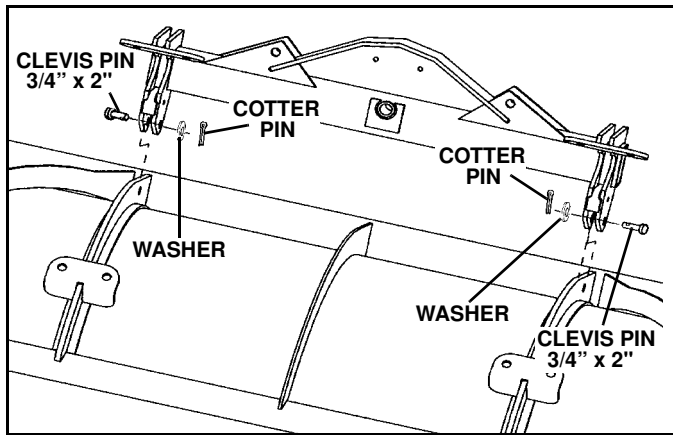

Figure 1-6
4. Place swing frame on blade and insert 3/4" x 2" clevis pin from blade parts bag. The ribs on either side of the center rib should be between the swing frame lugs. (See Figure 1-6)